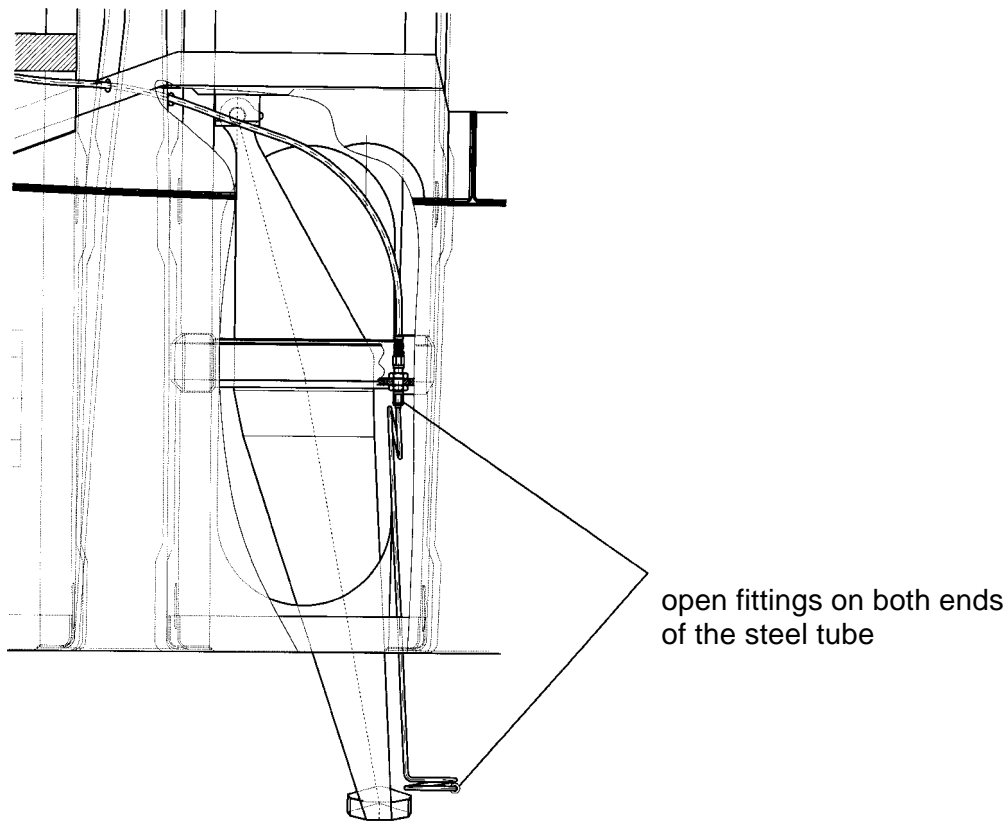

fig. 1
2. remove the steel tube by open the fittings on both ends (see fig. 1)